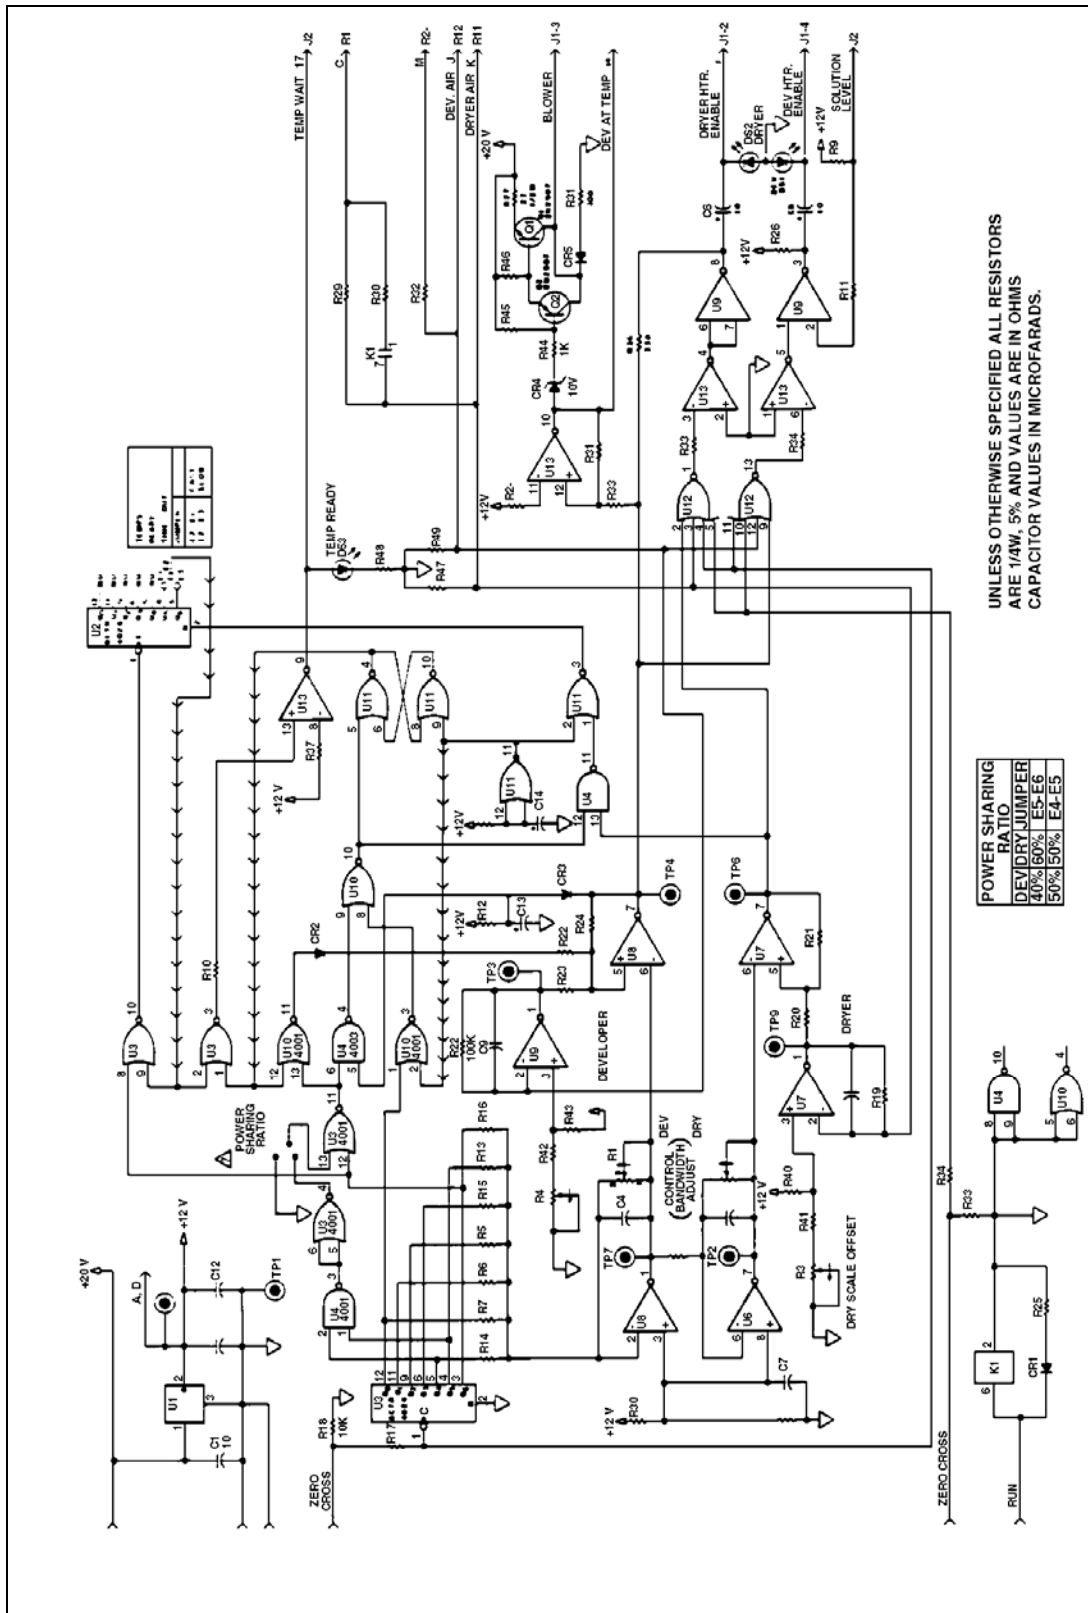

Figure 4-2. Temperature board.
(3) There are NO adjustments on the power board.
b. **Temperature Control Board Function.** Refer to figure 4-2.
(1) The temperature board controls:
(1) Ramp generator. The temperature control board senses an error voltage that is produced by comparing the thermistor/set point voltage with the proportional control ramp.